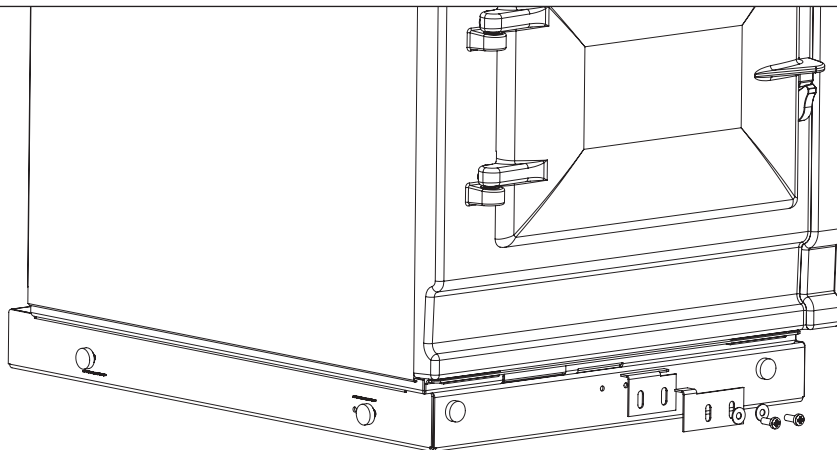
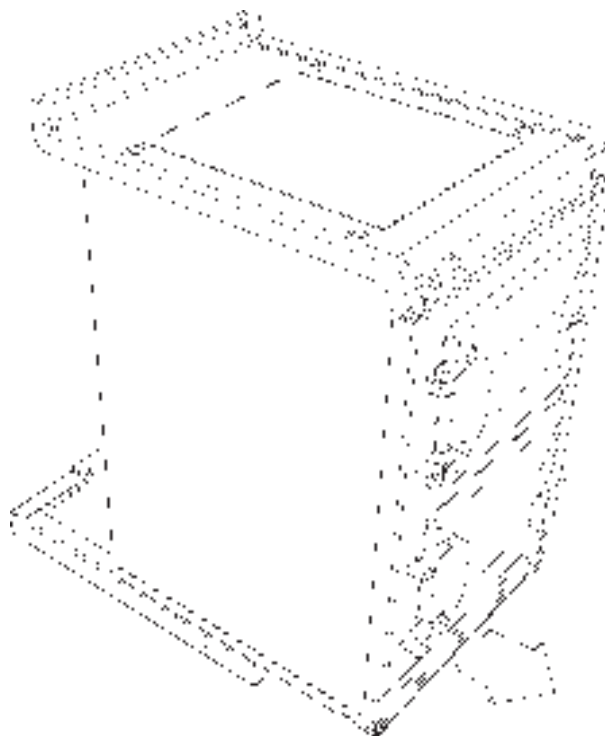

Fig. 5.1
Fig. 5.2
1. Detach hotcupboard from plinth by removing two screws and tongue bracket from plinth (**Fig. 5.1**), slide hotcupboard forwards and away from rear fixing bracket (**Fig. 5.2**).